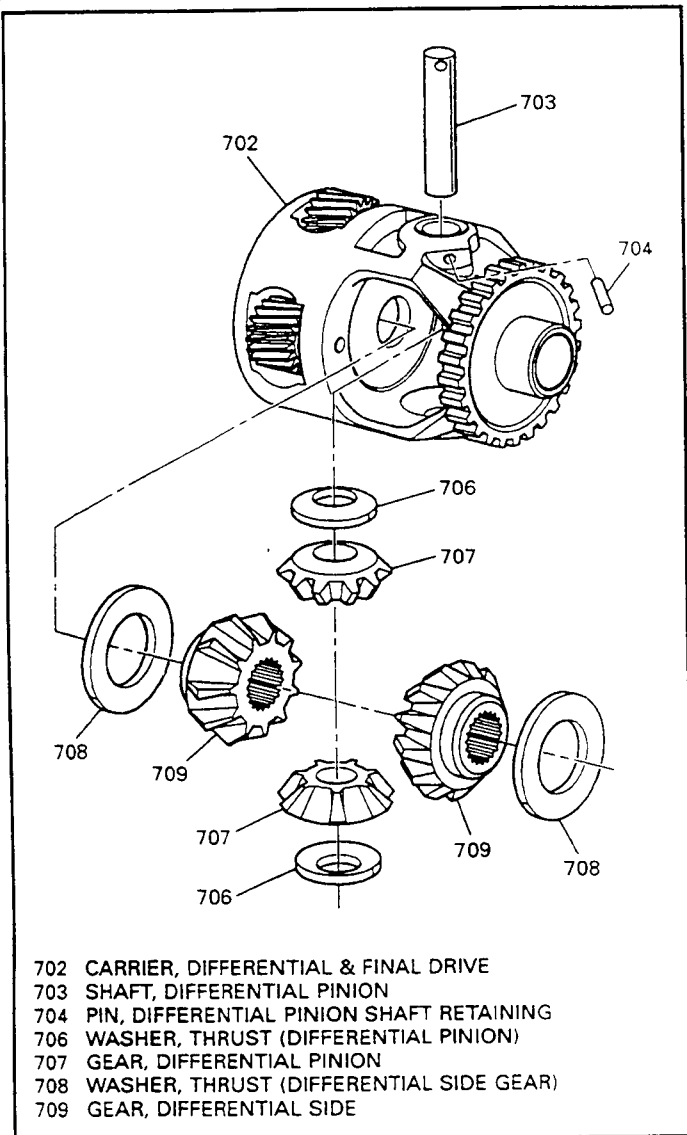

Figure 105
27. Assemble the side gear thrust washers (708) on the differential side gears (709) and install the differential side gears into the final drive carrier as shown in Figure 105.
28. Assemble the pinion gear thrust washers (706) onto the differential pinion gears (707), retain with "Trans-Jel", as shown in Figure 105.
29. Install the differential pinion gears with thrust washers attached into the final drive carrier, as shown in Figure 105.
30. Rotate the pinion gears into position and install the pinion shaft (703) through the final drive carrier and pinion gears (See Figure 105).
32. Install the pinion shaft retaining pin (704) thru the final drive carrier and pinion shaft to retain the pinion shaft, as shown in Figure 105.